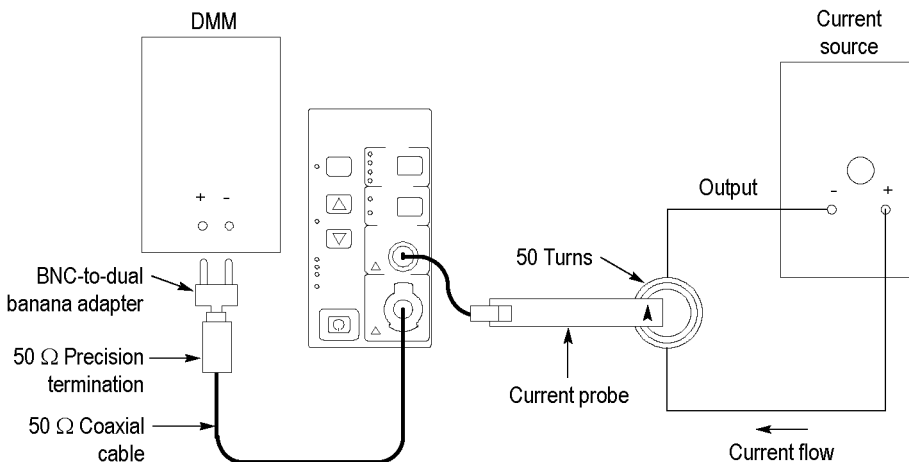

Figure 10: DC gain accuracy test setup for the TCP303 and TCP404XL
3. Clamp the current probe around the 50 turn current loop, as shown. (See Figure 10 on page 32.) Maintain proper polarity; the arrow-shaped indicator on the probe points away from the (+) terminal of the current source.